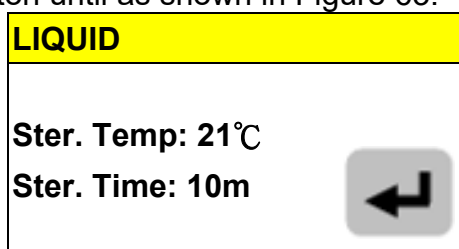

Figure 63
G. Press  or  button until as shown in Figure 63.